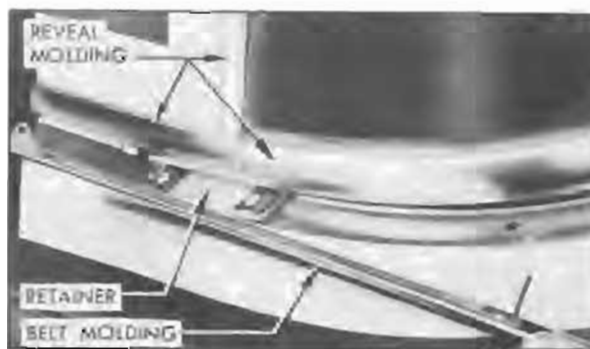

Figure 13-21—Rear Quarter Belt Molding Retainer—Style "69"
3. On outside of body remove the screw attaching ends of belt molding to body lock pillar, then remove molding sections. On Style "69," the belt molding slips over a retainer located at lower corners of window opening; remove retainer also. See figure 13-21.